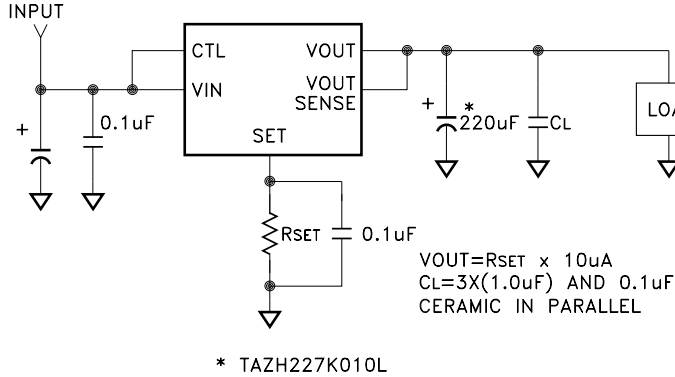

FIGURE 1
- ① Output is decoupled to ground using a 220µF tantalum low ESR capacitor in parallel with 3 pieces of 1.0µF and one 0.1µF ceramic capacitor unless otherwise specified. (See Figure 1)
- ② Guaranteed by design but not tested. Typical parameters are representative of actual device performance but are for reference only.
- ③ Industrial grade devices shall be tested to subgroup 1 unless otherwise specified.
- ④ Class V devices shall be 100% tested to subgroups 1,2 and 3.
- ⑤ Subgroup 1 TA=TC=+25°C